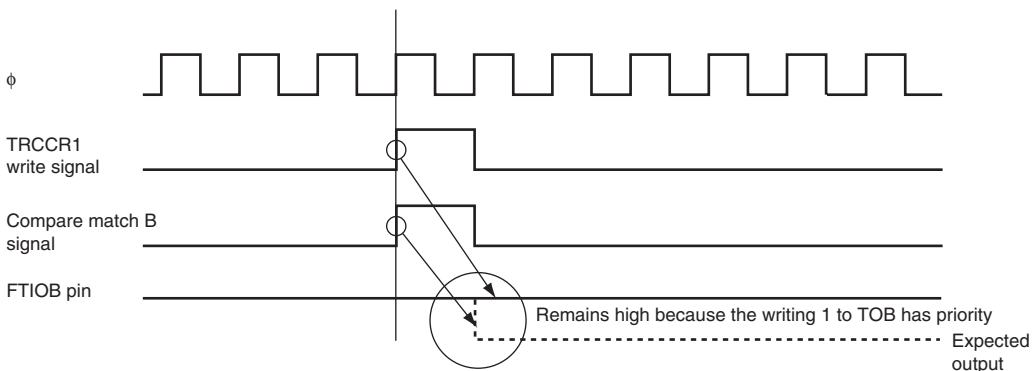

Figure 13.35 When Compare Match and Bit Manipulation Instruction to TRCCR1 Occur at the Same Timing
- The TOA to TOD bits in TRCCR1 decide the value of the FTIO pin, which is output until the first compare match occurs. Once a compare match occurs and this compare match changes the values of FTIOA to FTIOD output, the values of the FTIOA to FTIOD pin output and the values read from the TOA to TOD bits may differ. Moreover, when the writing to TRCCR1 and the generation of the compare match A to D occur at the same timing, the writing to TRCCR1 has the priority. Thus, output change due to the compare match is not reflected to the FTIOA to FTIOD pins. Therefore, when bit manipulation instruction is used to write to TRCCR1, the values of the FTIOA to FTIOD pin output may result in an unexpected result. When TRCCR1 is to be written to while compare match is operating, stop the counter once before accessing to TRCCR1, read the port 8 state to reflect the values of FTIOA to FTIOD output, to TOA to TOD, and then restart the counter. Figure 13.35 shows an example when the compare match and the bit manipulation instruction to TRCCR1 occur at the same timing.